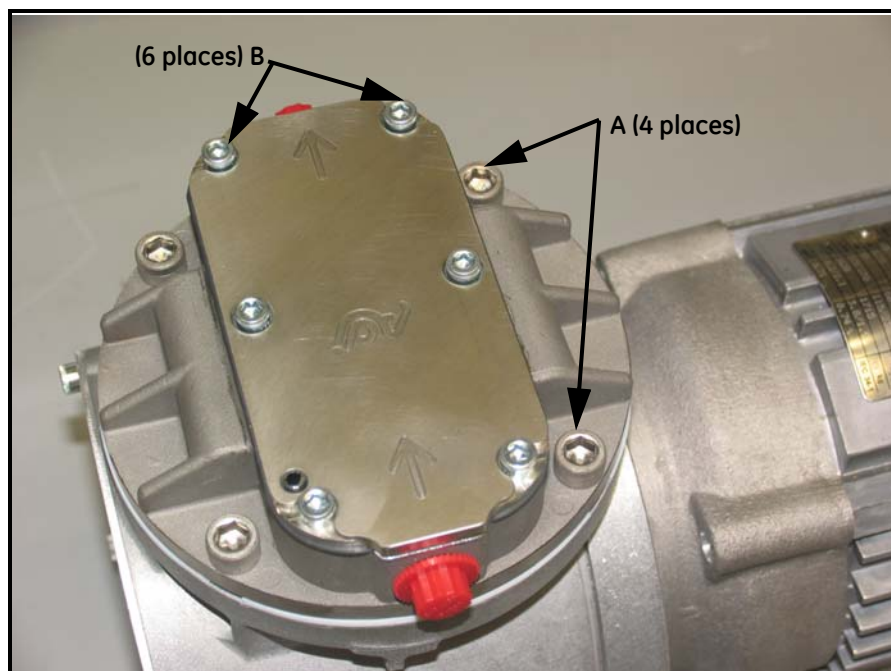

Figure 71: Locating the Head Section Screws and Socket Head Screws
3. Remove the head section by unscrewing the four 1/4" socket head cap screws using a 1/4" Allen wrench (see Figure 71, labeled A)
4. Remove the valve cover from the head by unscrewing the six 5/32" socket head cap screws using a 5/32" Allen wrench (see Figure 71, labeled B)